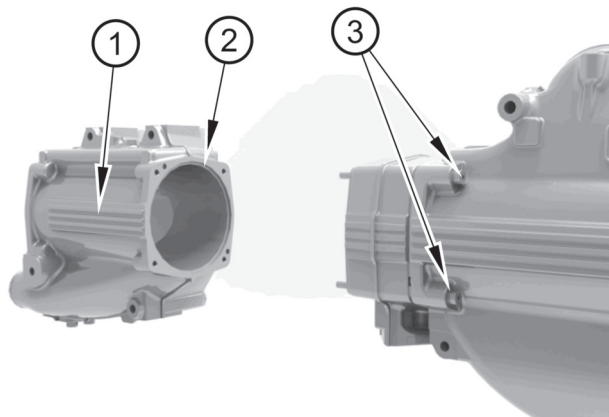

Figure 22
2. Undo the bolts (figure 22 item 3) and remove the heat exchanger body (item 1). Withdraw the O ring seal (item 2).